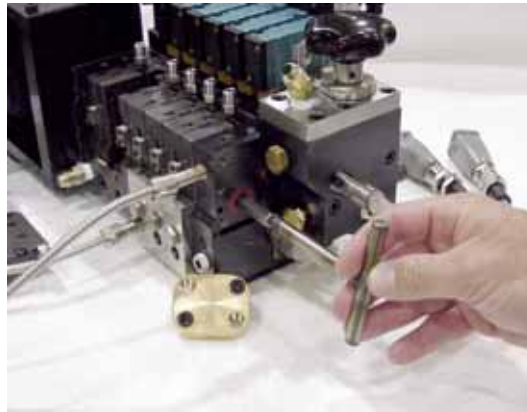

Figure 7-7 Using the shaft puller to remove the pump shaft
4. See Figure 7-7. Screw the shaft puller into the end of the pump shaft. When the puller is tight, pull it straight out without turning it. This will keep the hex receivers of all the pumps aligned.